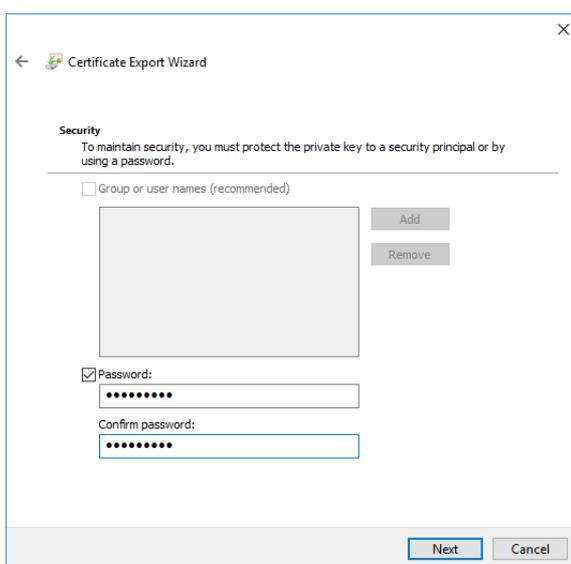

Figure 2-43. Entering password for private key
8. Make sure to set an export password to protect your private key, see Figure 2-43.